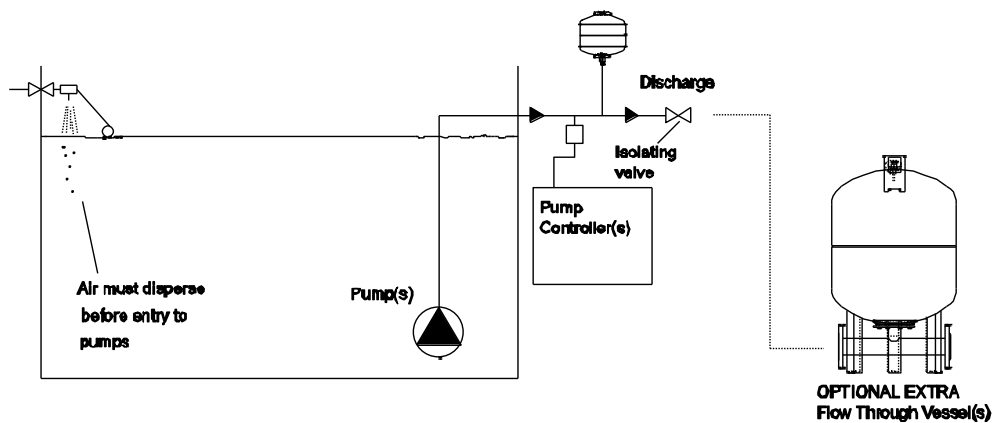

Fig. 1.1 Typical Pipework arrangement
- 1.3.4.3 Fit isolating valves to the discharge side of the pumpset** (see fig.1.1), to enable the pumpset to be isolated from the system for maintenance purposes.